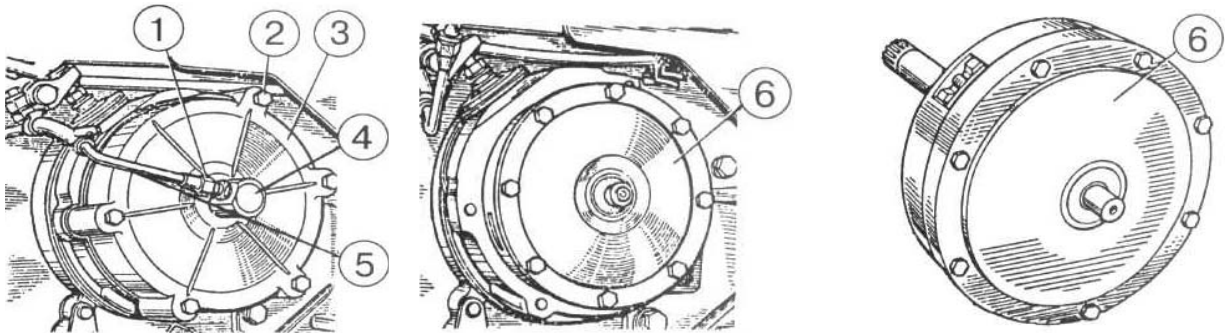

Figure 4.99
- a) unscrew cap nut 1 of oil line 5 (Figure 4.99);